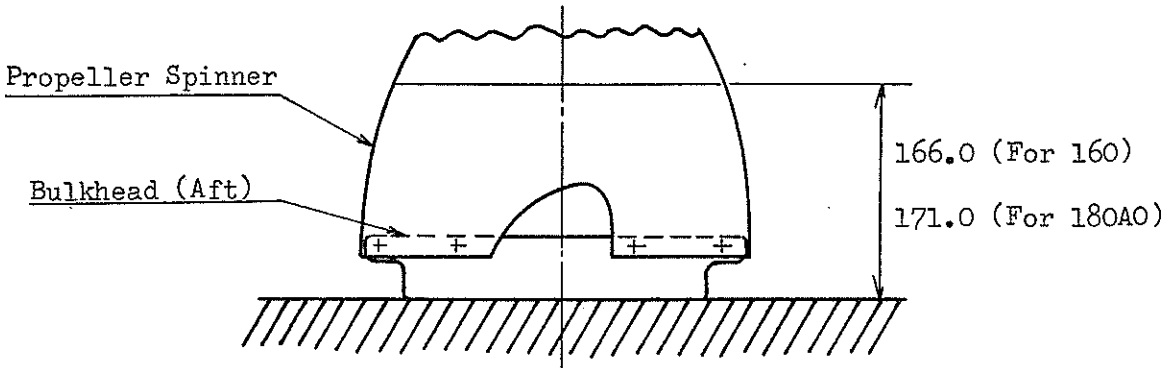

Figure 3. Details for Scribing - Propeller Spinner
- (1) Perform the steps (1) through (9) of PART I.
- (2) Repaint propeller spinner bulkhead (aft).
- (3) Assemble propeller spinner and bulkhead (aft) removed in the previous steps (2) and (4) of PART I. Place the assembled unit on a suitable flat plate (preferably surface plate) and scribe reference line for bulkhead (fwd) installation as shown in figure 3.